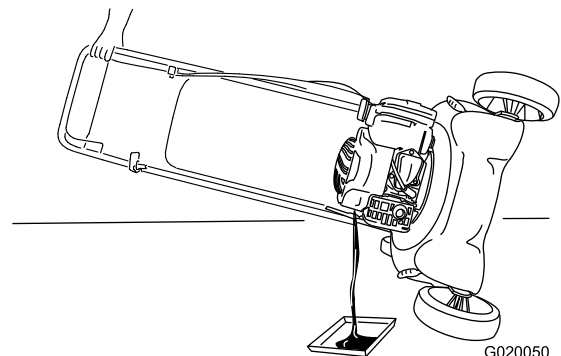

Figure 18
4. Tip the machine onto its side (so that the air filter is up) to drain the used oil from the oil-fill tube (Figure 18).